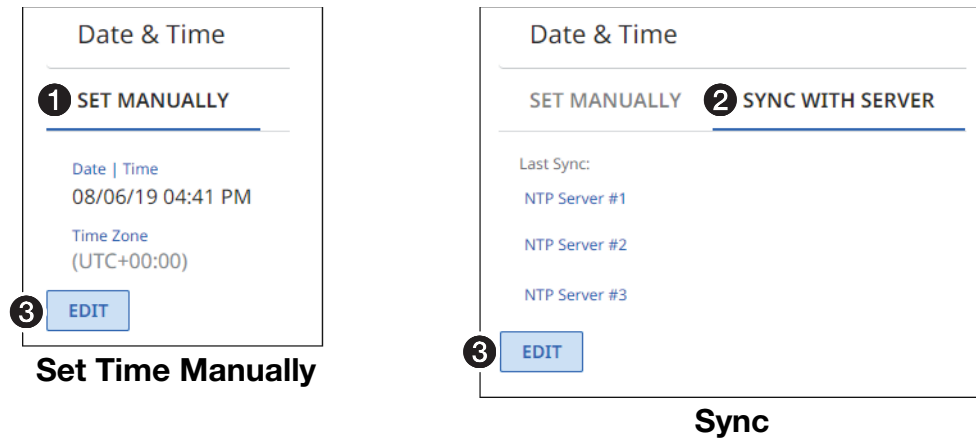
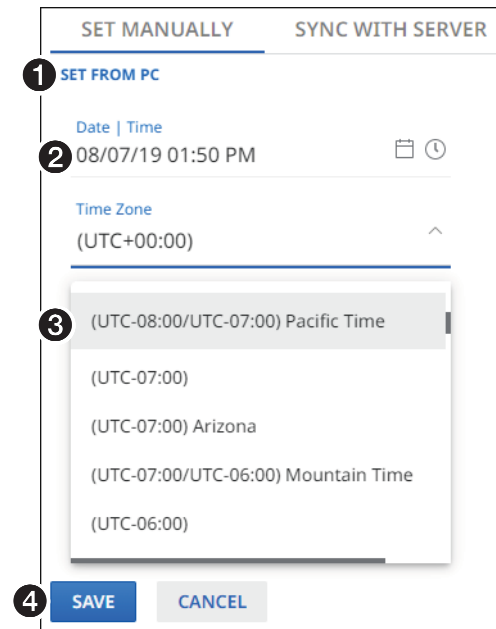

Figure 48. Date & Time Selection
Figure 49. Set Time Manually
The **Date & Time** selection on the **Device Settings** page (see figure 45 on page 45) opens a read-only pane that shows date and time settings (see figure 48). Click **Set Manually** (❶) and **Sync with Server** (❷) to switch between the views applicable to each selection. The date and time can be edited by clicking the **Edit** button (❸). An editable pane opens (see “Set time manually” and figure 49 and Sync time with server and figure 51 on page 48).
- ❶ **Set from PC** — Click this link to sync the encoder date and time to the computer with which you are connected.
- ❷ **Date & Time** — Click in this field and type in the date and time.
- ❸ **Time Zone** — Click the drop-down list to select the offset from Greenwich Mean Time (GMT).
- 4 **Save and Cancel buttons** (see **figure 49** on page 47) — Click **Save** to take Date & Time changes or **Cancel** to abandon them. Clicking either button closes the editable pane.